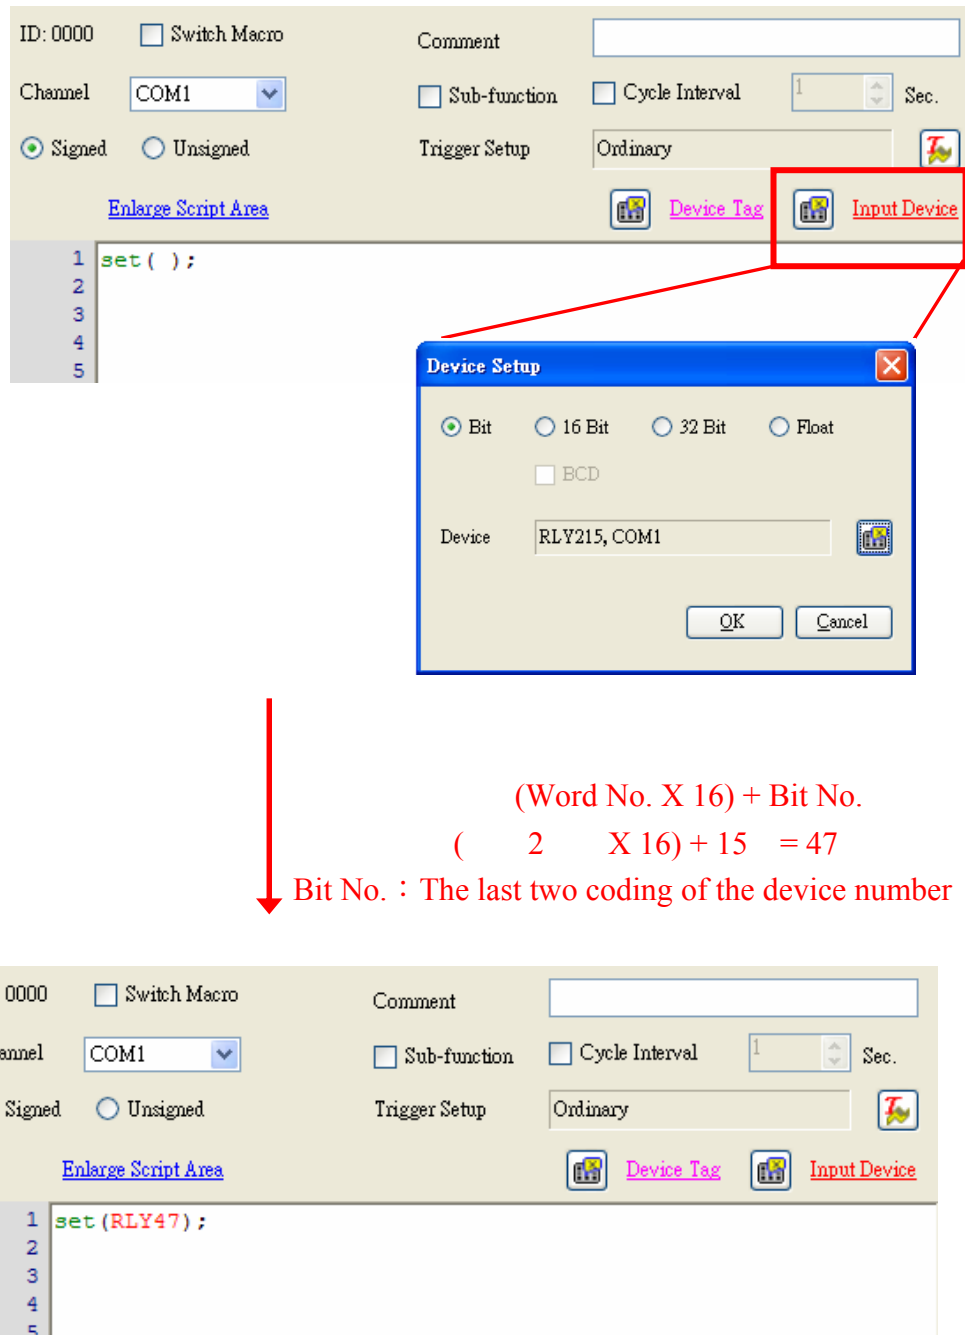

Fig. 3-4-5-19、Device setup
- When editing comments in Chinese in the macro editor, you need to disable the  auto syntax analysis, as shown in figure 3-4-5-20.